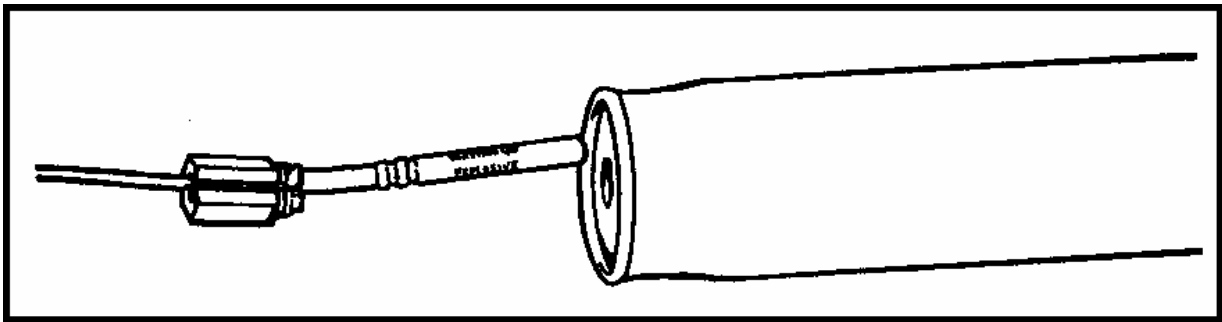

Figure 052-193-1311-19
- i. Insert the blasting cap into the threaded cap well of the bangalore torpedo. Secure the blasting cap by tightening the priming adapter into the threaded cap well (Figure 052-193-1311-19).